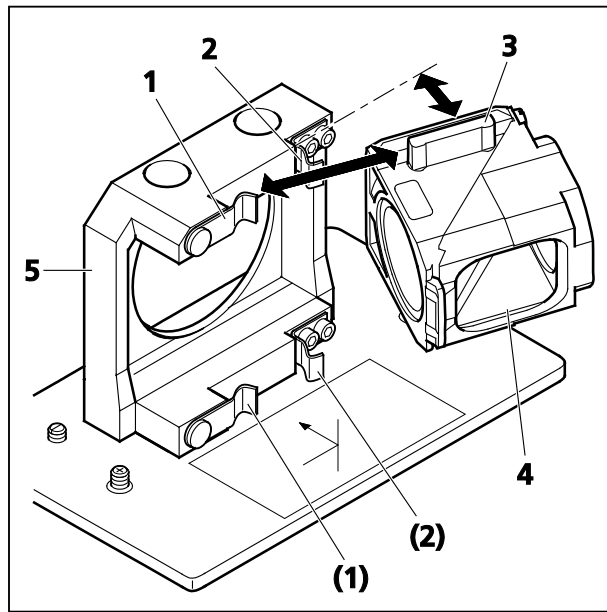

Fig. 35 Changing the filter module
- Disengage the filter module (Fig. 35/4) from the upper spring elements (Fig. 35/2) of the filter insert (Fig. 35/5) by tilting it forward, then lift it off the lower spring elements (Fig. 35/1) and remove the module.
- Insert the filter module (Fig. 35/4) with the aid of its mounting elements on its left and right (Fig. 35/3) into the lower spring clips (Fig. 35/1) on the filter insert.
- Press the filter module against the upper spring clips (Fig. 35/2) until it engages firmly.